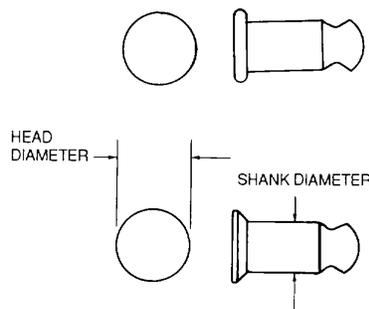

Figure 2-54. Hi-Shear Rivets
(3) Solid shank rivets. Cadmium-or zinc-plated steel standard bolts, or NAS structural screws, may be used to replace standard solid shank rivets only when the proper rivets or riveting equipment are not available in such cases, steel bolts or screws of the same size as the replaced rivets are adequate for replacing any type rivet Observe the following precautions:
h. Hi-Shear Rivets. Hi-shear (pin) rivets, as shown in figure 2-54, are essentially threadless bolts which are inserted like rivets Each rivet consists of two parts a stud and a collar. The stud is made of 4130 alloy steel, or equivalent, heat-treated to 125,000 to 150,000 psi, and cadmium-plated The collar is anodized 2117-T4 aluminum alloy. The installed rivet can be readily identified by the presence of the attached collar rather than the ordinary formed head of the standard rivets Use Hi-shear rivets in shear applications only As the shear strength of the steel is considerably greater than either the shear bearing strength of aluminum alloys, these special rivets are used to advantage only in the thicker sheet gauges Never use Hi-shear rivets where the grip length is less than the shank diameter (3/16-inch for smallest available rivet). Use the 100-degree countersunk type where flush surfaces are desired Hi-shear rivets may be replaced with close tolerance bolts of the same material, strength and diameter, where absolutely necessary. Use flush-headed bolts for flush-headed rivets and protruding head bolts for protruding head rivets. The bolt thread must not extend into the material.